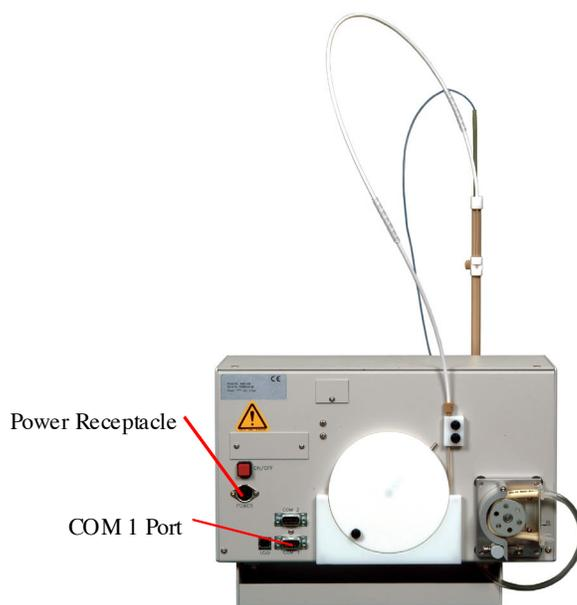

Figure 4.12. Autosampler Back Panel
3. Plug the one end of the autosampler communications cable (PN A001736) to the COM 1 port on the autosampler back, depicted in Figure 4.12. The autosampler communications cable is included in the FS3700 startup kit.